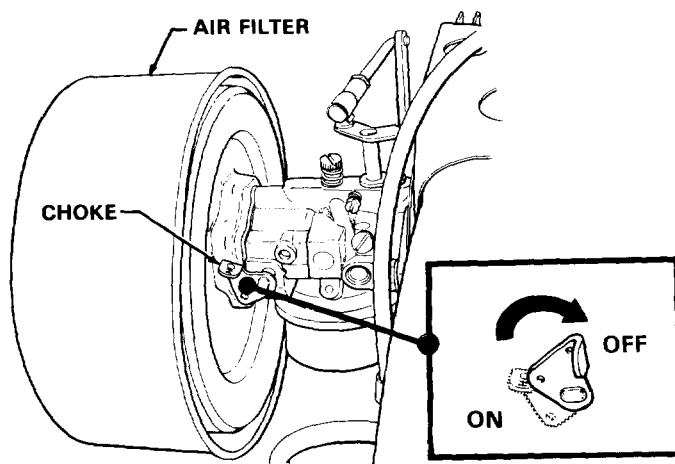

Fig 6
7. Turn the choke off by turning the lever so it is horizontal. See Fig 6.